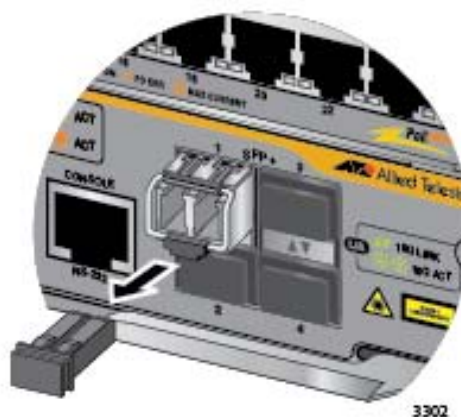

Figure 111. Removing the Dust Cover from an SFP+ Transceiver in the AT-SBx81CFC960 Controller Fabric Card
4. Remove the protective cover from the SFP+ transceiver, as shown in Figure 111.